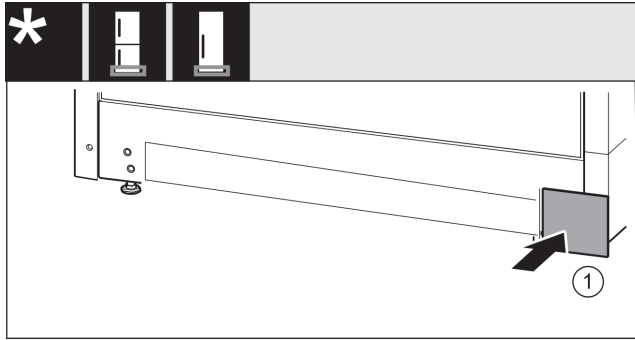

Fig. 16
- ▶ Re-attach the cover Fig. 16 (1) to the other side.